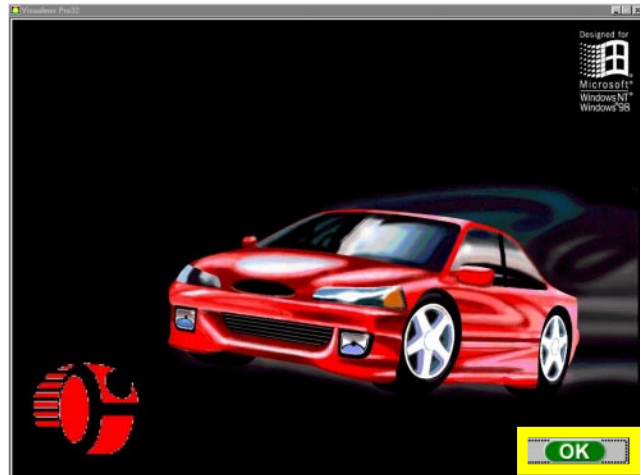

Figure 3-16
14. By default the logo screen is the first screen to appear after the alignment software loads. To access the alignment software click on the **&ltOK>** button in the lower right hand corner of the screen. (Figure 3-16)